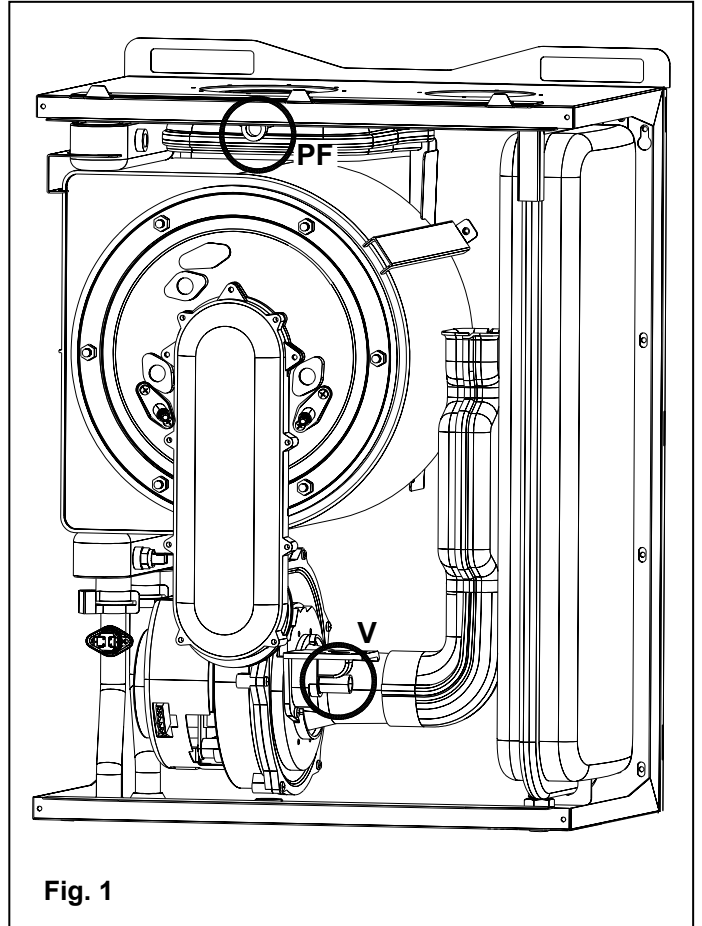

Fig. 1
- The automatic ignition system will then light the burner. It may however be necessary to repeat the operation a number of times in order to eliminate all the air from the pipes. To repeat the operation, wait approximately three minutes before re-attempting to light the boiler. To reset the boiler Switch off switch **1** (fig. 1 page 10) and switch it back on again and repeat the lighting procedure.
- Unscrew the aluminium plug and insert an analyser in the exhaust sampling point **PF** (fig. 1) to check the CO2 value. Make sure that the value complies with that reported in table 1.
- If the CO2 value does not correspond to the specified value, adjust screw **V** (fig. 1) on the venturi clockwise to reduce the CO2 value or anticlockwise to increase it.